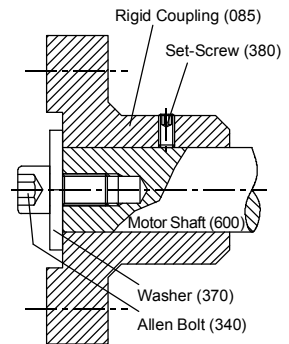

Fig. 9.
- Place the motor (600) vertical as the shaft end comes to the upper side.
- Slip the rigid coupling (085) onto the motor shaft (060) put the washer (370) on the rigid coupling (085) and tighten by using imbus head bolt (340). So that the shaft end and the coupling end will be on the same plane (**see Fig. 9**).
- Tighten the set-screw (380) over the rigid coupling (085).
- Mount the pump shaft (060) to the rigid coupling (085).
- Place the stuffing box cover (046) onto the motor pedestal (012).
- Slip the rotating part of the mechanical seal onto the pump shaft (060) and place the spacer sleeve (067).
- Place the impeller key (210) into keyway, slide the impeller (050) onto the shaft (060) and screw the impeller nuts (065).
- Assemble the volute casing (001).
- Mouth the base plate (011) to the pump (if used).